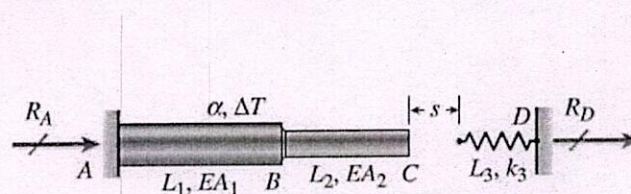

Figure 1
**Q.3** A nonprismatic bar ABC made up of segments AB (length  $L_1$ , cross-sectional area  $A_1$ ) and BC (length  $L_2$ , cross-sectional area  $A_2$ ) is fixed at end A and free at end C (see Figure 1). The modulus of elasticity of the bar is  $E$ . A small gap of dimension  $s$  exists between the end of the bar and an elastic spring of length  $L_3$  and spring constant  $k_3$ . If bar ABC only (not the spring) is subjected to temperature increase  $\Delta T$ , determine the following: (a) Write an expression for reaction forces  $R_A$  and  $R_D$  if the elongation of ABC exceeds gap length  $s$ . (b) Find expressions for the displacements of points B and C if the elongation of ABC exceeds gap length  $s$ .